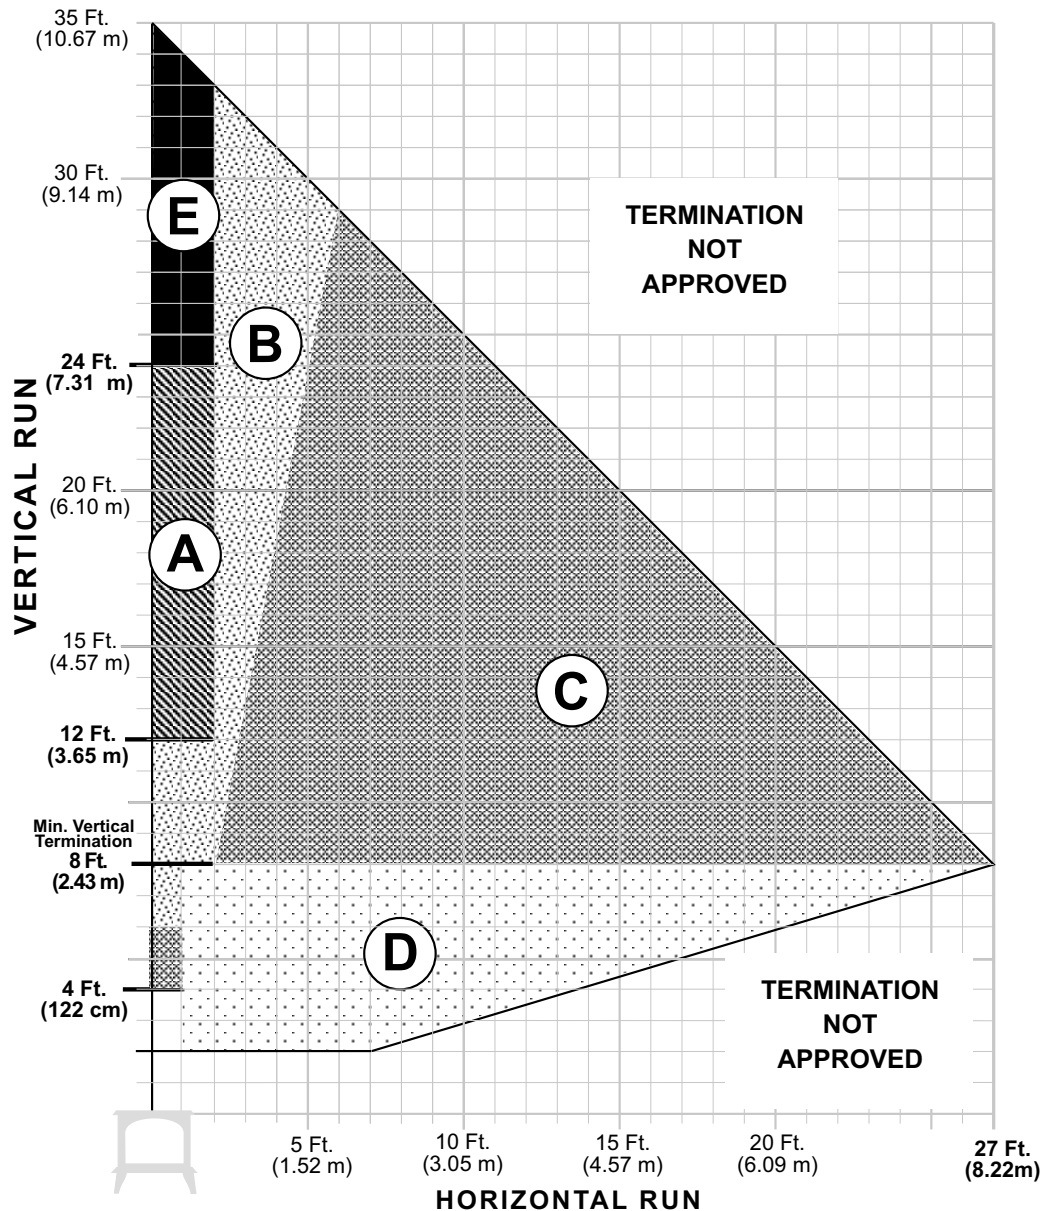

Figure 9. Vent Termination Matrix - NG / LP
The Exhaust Restrictor is an adjustable shutter located at the top right side of the firebox. It is adjusted by moving a pivot pin into one of four positions. It is set in the FULLY OPEN (D) position at the factory. See Fig. 7. The four positions correlate to the termination zones (A,B,C,D) diagrammed in figure 9. Use the diagram to determine the setting you should use.
- Any horizontal termination must fall within the shaded portion of the vent window matrix shown in fig. 9. For Snorkel Terminations, see below.